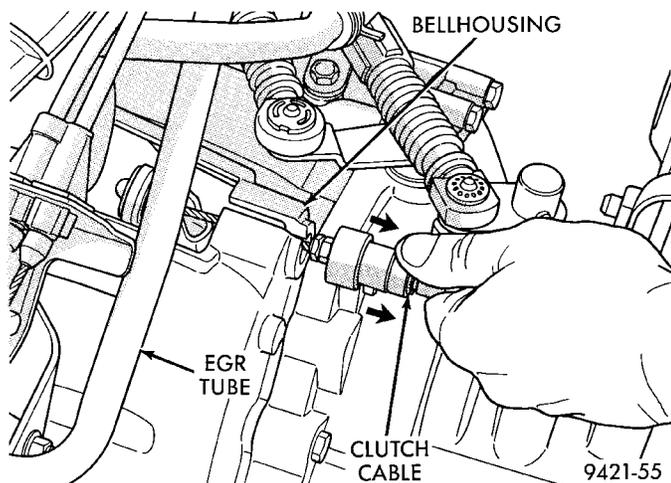

Fig. 11 Cable at Transaxle
(3) Pull back on clutch cable housing and insert into transaxle housing (Fig. 11).